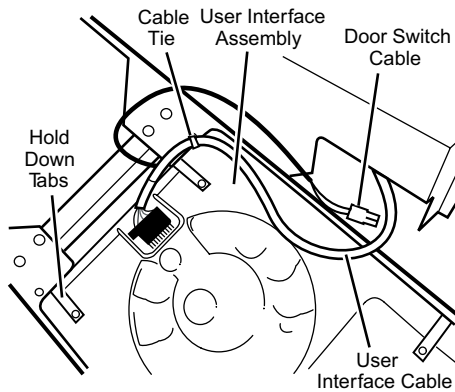

Figure 8. Disconnect cables to remove user interface assembly from console.
- Disconnect the door switch cable from the control board and disconnect the UI (User Interface) cable from the UI (User Interface) cable from the UI. Also cut the cable tie holding the UI cable to the console. See Figure 8.
- Remove the hold down tabs. See Figure 8.